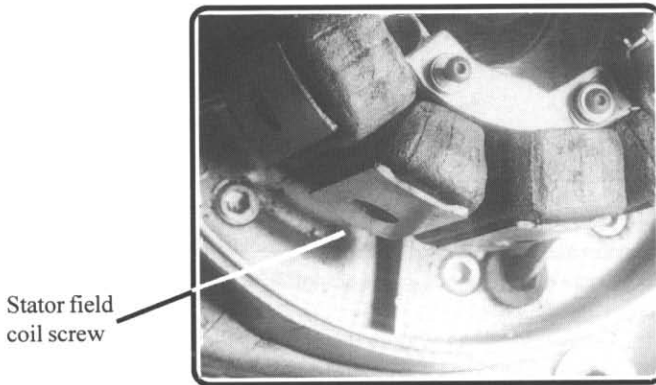

Figure 30. Stator field coils.
21.4. Check to see if any of the stator field coils are loose. If they are, tighten the screws shown in figure 30.